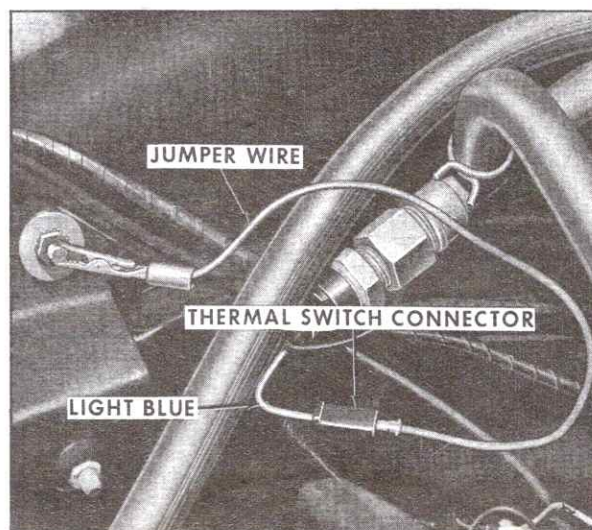

Fig. 15-44 Grounding Thermal Switch Connector
2. Detach connector at thermal switch (light blue wire) and attach a jumper wire from thermal switch connector to ground, Fig. 15-44.
4. Touch ground end of jumper wire to a good ground. Relay should click. If it does, proceed to step 10. If not, proceed to step 5. Attach jumper wire to ground, Fig. 15-44.